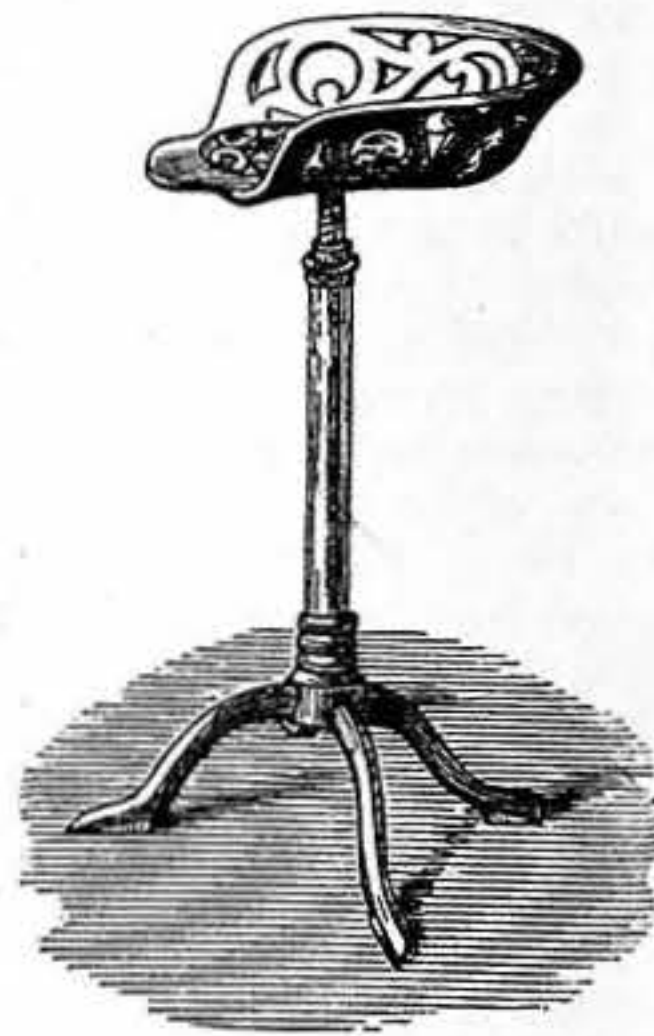

Fig. 4.—Adjustable Seat.
*Stools.*—Most draughtsmen prefer to stand to their work, as a rule, because in the various operations of drawing and finishing a plan of any size the work is seldom confined to one part of the paper at once, and it is necessary to alter the position of the body momentarily to obtain a proper command of the work. In some classes of work it is nevertheless possible to work while seated, and in such a case the form of seat which will be found most suitable is one which is adjustable in height on the principle of a music-stool. A rather elegant development of this form is shown at Fig. 4.